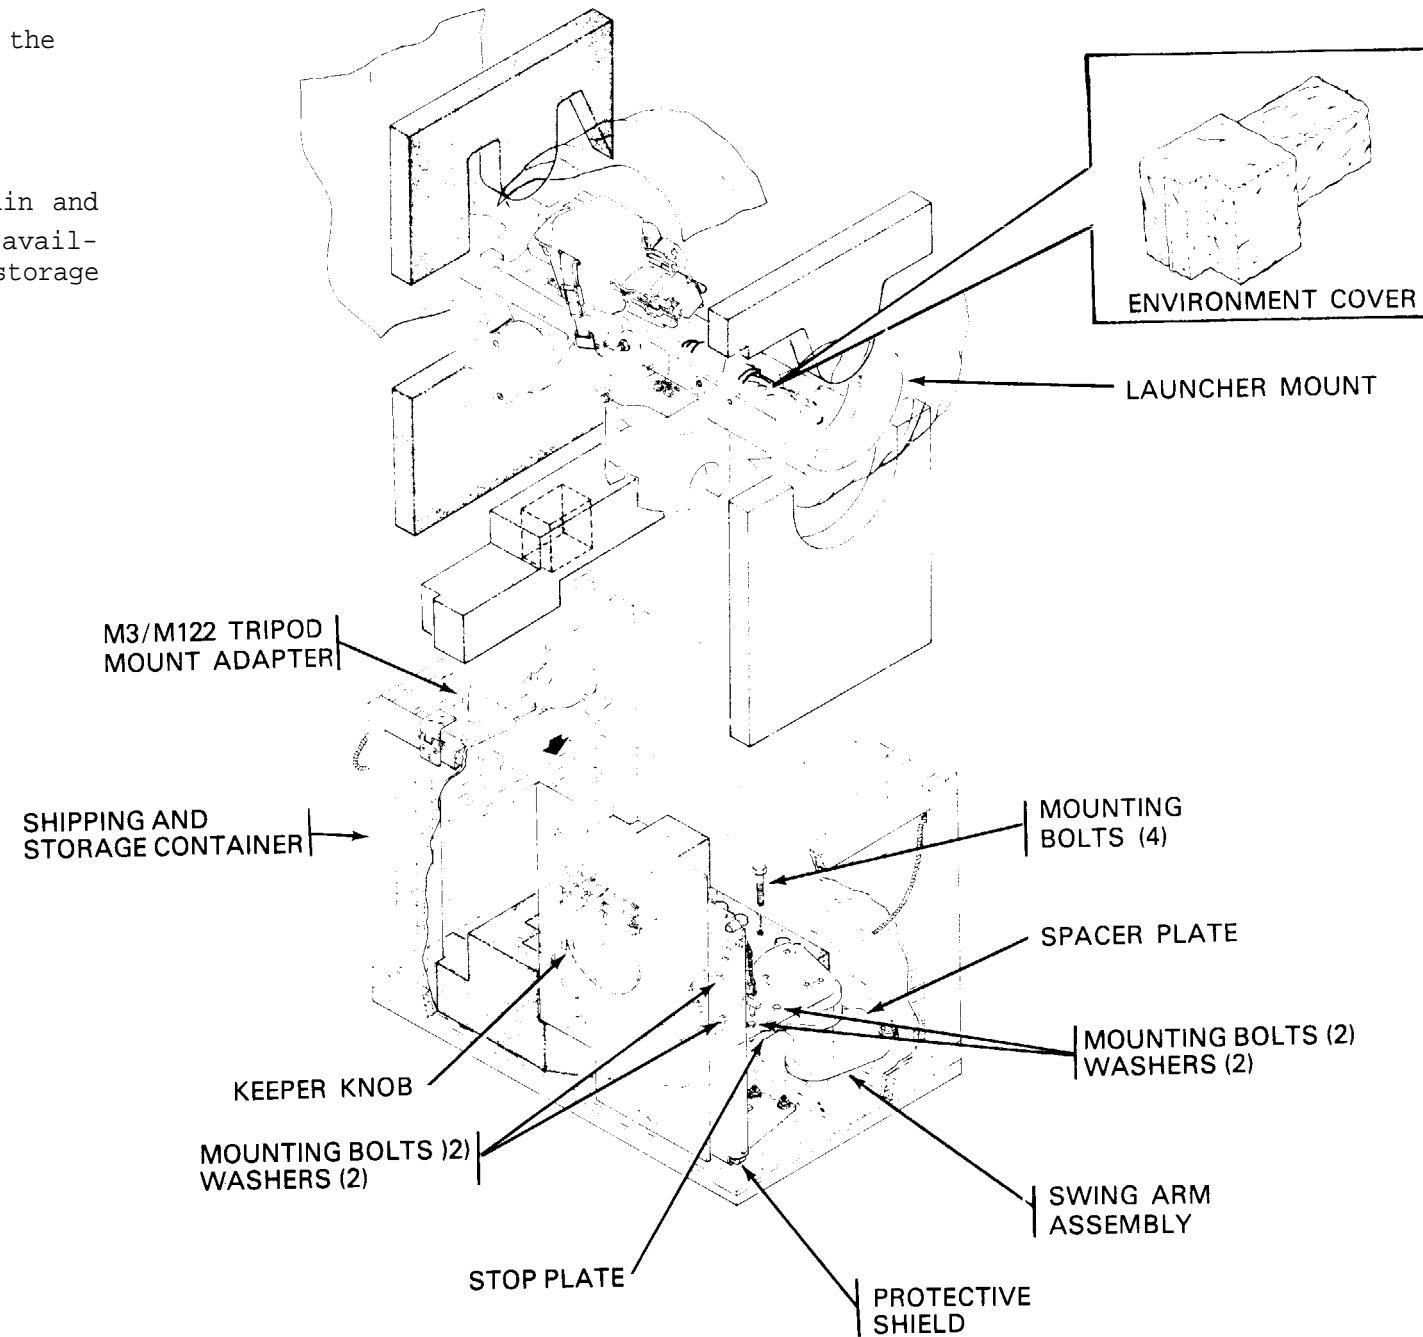

Figure 2-1, M175 inventory
- c. See figure 2-1 for inventory.